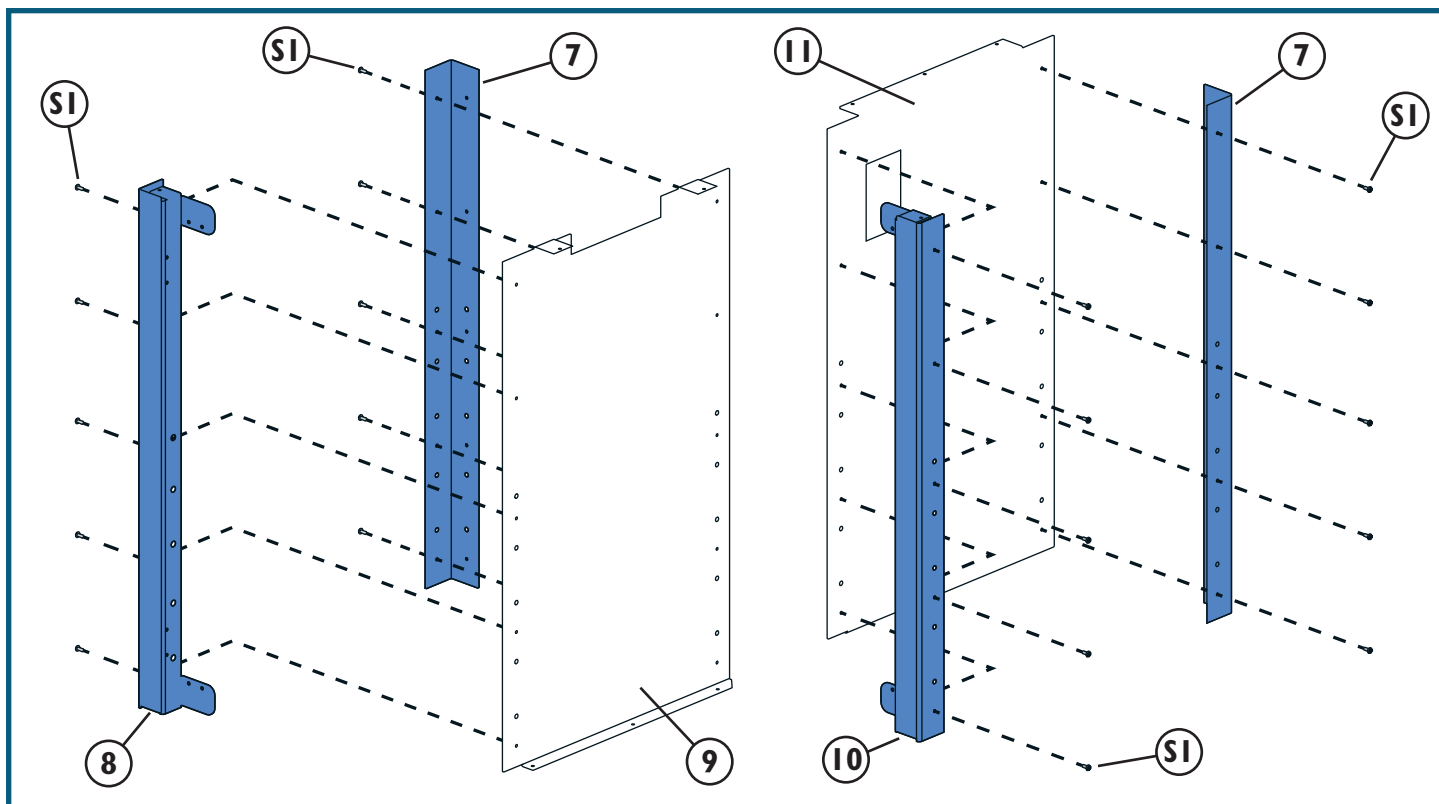

Fig. 2
- Fit the Left Front Corner Bracket (8) and one of the Rear Corner Brackets (7) onto the outside edges of the Left Side Panel (9) and attach each with five M4 x 3/8" Pan-Head Self-Tapping Screws (S1). **Figs. 2 and 3.**
- Fit the Right Front Corner Bracket (10) and one of the Rear Corner Brackets (7) onto the outside edges of the Right Side Panel (11) and attach each with five M4 x 3/8" Pan-Head Self-Tapping Screws (S1). **Figs. 2 and 3.**